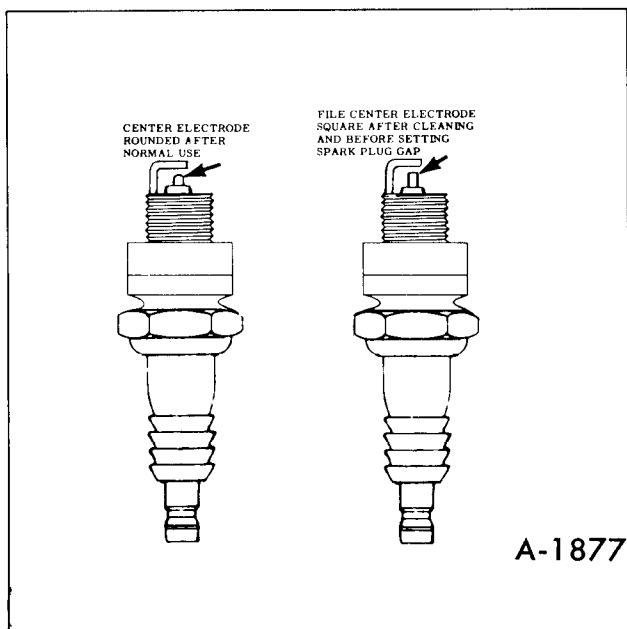

Figure 38—Spark Plug Electrodes
3. Clean all serviceable plugs with an abrasive type cleaner. File center electrode flat. (figure 38) Do not file center electrode on new plugs.